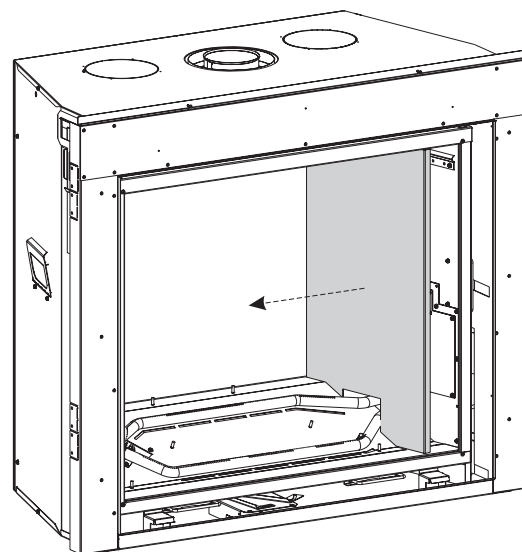

Figure 78
4. Remove right liner panel. **See Figure 78.**